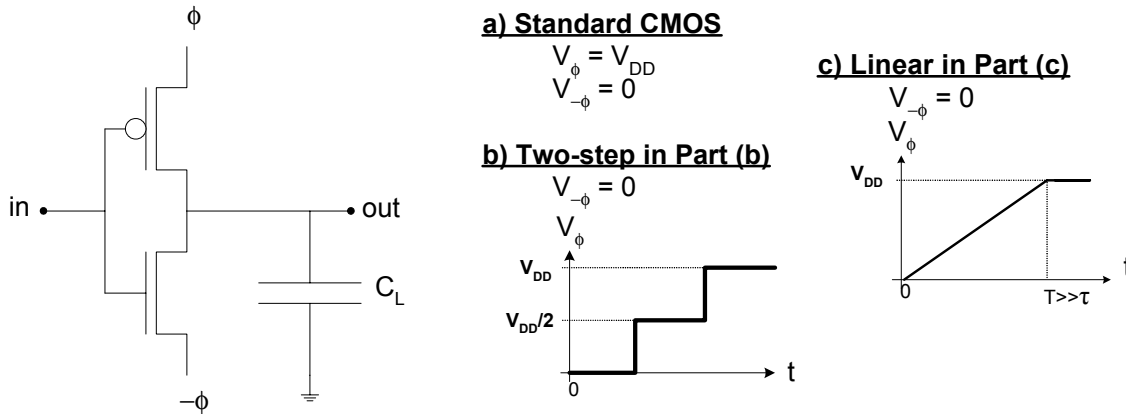

Figure 1a: Inverter with Variable Power Rails
- Consider the transient response of a standard CMOS inverter as shown in Figure 1a (with constant rails at V_{DD} and 0) and external load C_L . Assuming sufficient time for the load capacitance to fully charge/discharge between transitions, how much energy is consumed charging the load for a pull-up (low to high) transition. How much energy is consumed for a pull-down (high to low) transition? After a pull-up transition, how much energy is stored on the capacitor? Why is this different from the total energy consumed to charge the capacitor?